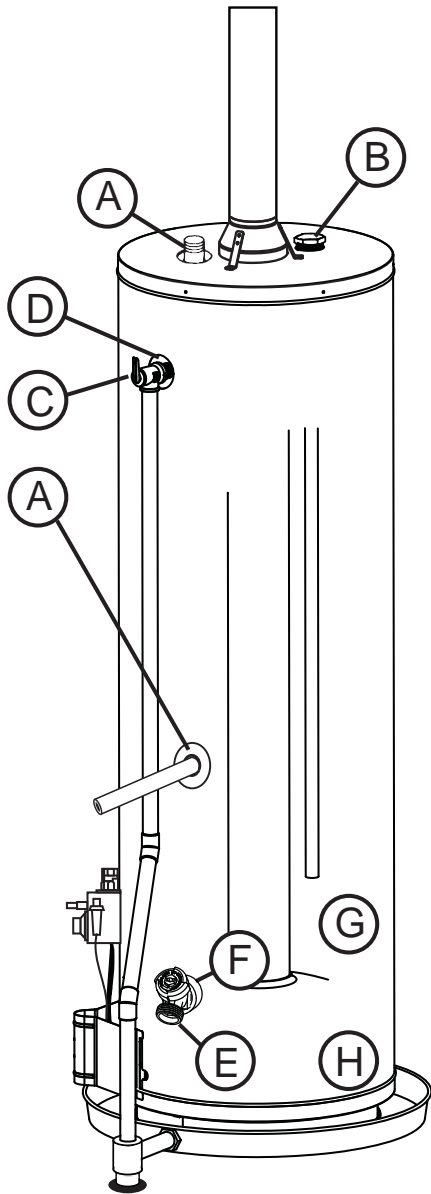

FIGURE 45.
2. Use a vacuum cleaner/shop vac to remove all loose debris in the combustion chamber (Figure 45).
1. Check the door gasket for damage or imbedded debris prior to installation (Figure 45).
combustion chamber (Figure 45).